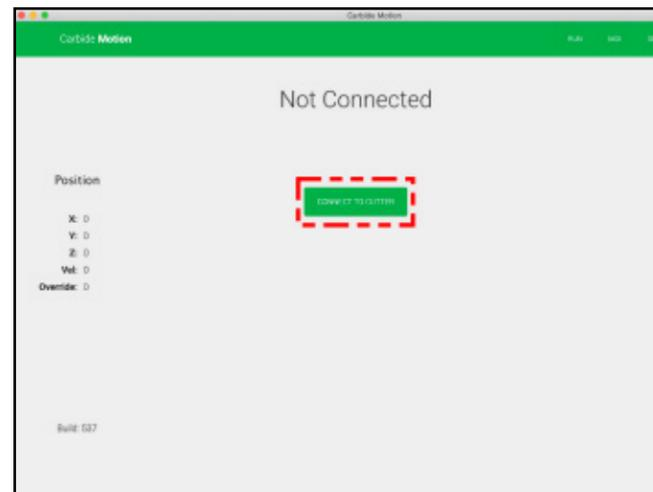

Figure 10-1
6. In Carbide Motion, click the **Connect to Cutter button**. See Fig. 10-1.